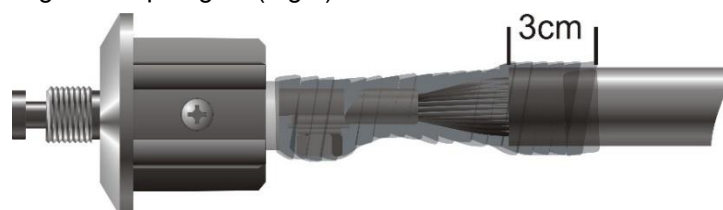

Figure 8.
9. Again using the semi-conductive tape, start stretching and wrapping over the aluminium conductor strands and connection to the lower finial connector to start building up in multiple layers. Continue wrapping the tape over the area shown to cover the last 3 cm of the black insulation, over the lower finial connector and up to the black plastic section of the mast base assembly in multiple layers, completely covering the crimp and achieving as smooth and level a surface as possible, removing all sharp edges. (Fig 8)